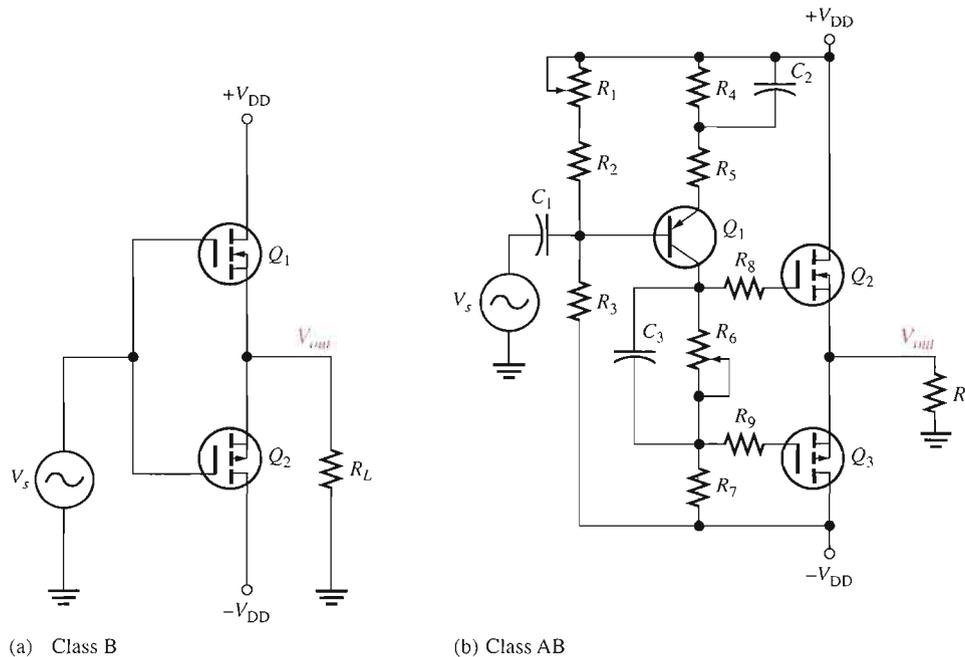

FIGURE 9–20
A darlington class AB push-pull amplifier is shown in Figure 9–19. Four diodes are required in the bias circuit to match the four base-emitter junctions of the two darlington pairs.
► **FIGURE 9–19**
A simplified class B amplifier using complementary symmetry E-MOSFETs and two-supply operation is shown in Figure 9–20(a). Recall that an E-MOSFET is normally off but can be turned on when the input exceeds the threshold voltage. For logic devices, the *on* voltage is typically between 1 V and 2 V; for standard devices the threshold is higher. When the signal exceeds the positive threshold voltage of  $Q_1$ , it conducts; likewise, when the signal is below the negative threshold voltage of  $Q_2$ , it conducts. Thus, the *n*-channel device conducts on the positive cycle; the *p*-channel device conducts on the negative cycle.
As in the case of the BJT push-pull amplifier, the transistor does not conduct just above zero signal voltage, which causes crossover distortion. If each transistor is biased just at the threshold voltage, the MOSFETs will operate in class AB, as shown in the circuit in Figure 9–20(b). This amplifier includes a BJT amplifier as a driver and other components to assure a reasonably linear output from an E-MOSFET push-pull stage. Of course, there are additional features to this basic design in commercial amplifiers.
The basic class AB push-pull amplifier shown in Figure 9–20(b) includes a common-emitter stage that amplifies the input signal and couples the signal to the gates of the push-pull stage, consisting of  $Q_2$  and  $Q_3$ . Notice that  $R_6$  is bypassed with capacitor  $C_3$  to allow identical ac signals to be applied to the push-pull stage. Potentiometer  $R_6$  is used to develop the proper dc voltage to set the bias to the threshold voltages of  $Q_2$  and  $Q_3$ . It is adjusted to minimize crossover distortion. Potentiometer  $R_1$  is adjusted to zero the output dc output voltage with no input signal.